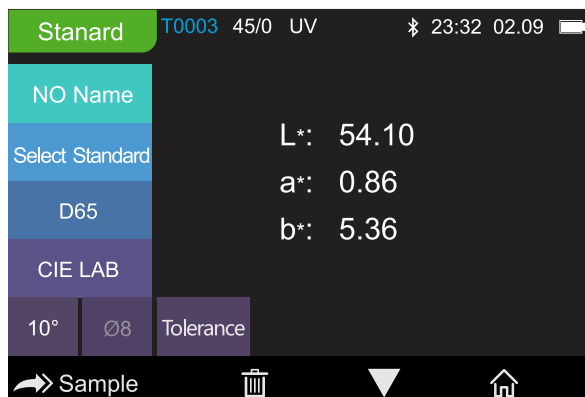
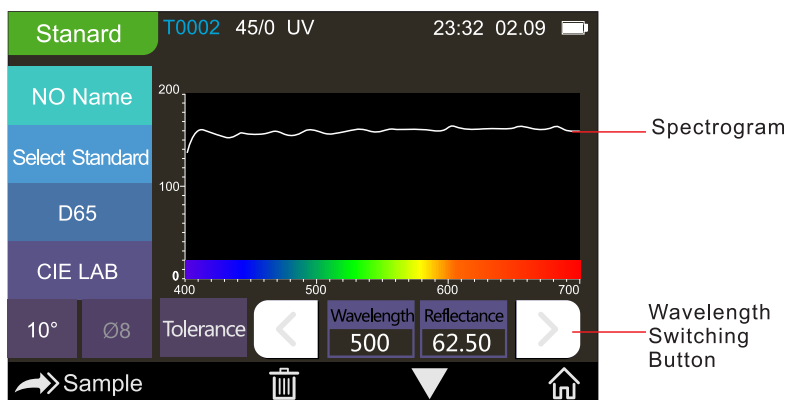

Figure 10 Standard Measurement
Figure 11 Reflectance of Standard Measurement
4. There is a “Beep” sound, and the LED indication light will turn to green from yellow, then it shows measurement finished as shown in Figure 10 and in Figure 11.
15) Wavelength switch button: As shown in Figure 11, click “” or “”, the wave length and reflectance of the current sample will switch as range of 10nm interval.